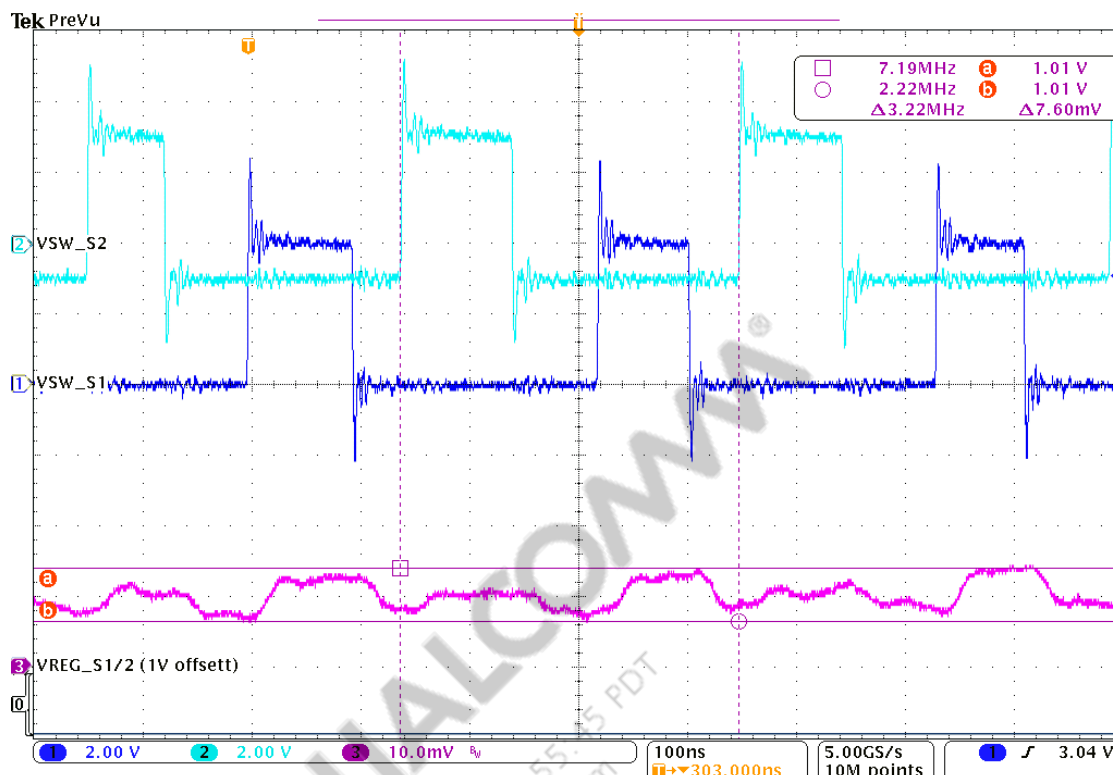

Figure 10 Phase-staggered switching pulses on a dual-phase FT-SMPS
- The starting point of each switching cycle is phase-staggered to minimize ripple voltage and to spread out current surges drawn from the battery (Figure 10).